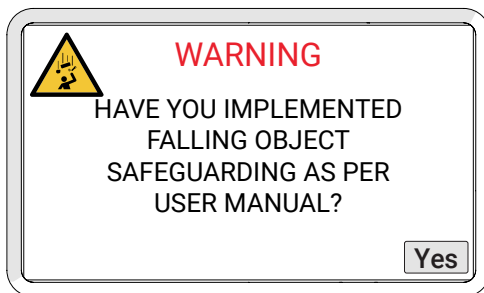

Fig. 279 - Falling object warning
6. A second warning message (Fig. 279) will display requesting assurance that a no-entry fall zone has been established (see “Preparation for Safe Use” on page 38) and tether requirements are met (see “Tether Requirements and Attachment” on page 39). Acknowledge this warning by touching **Yes**.